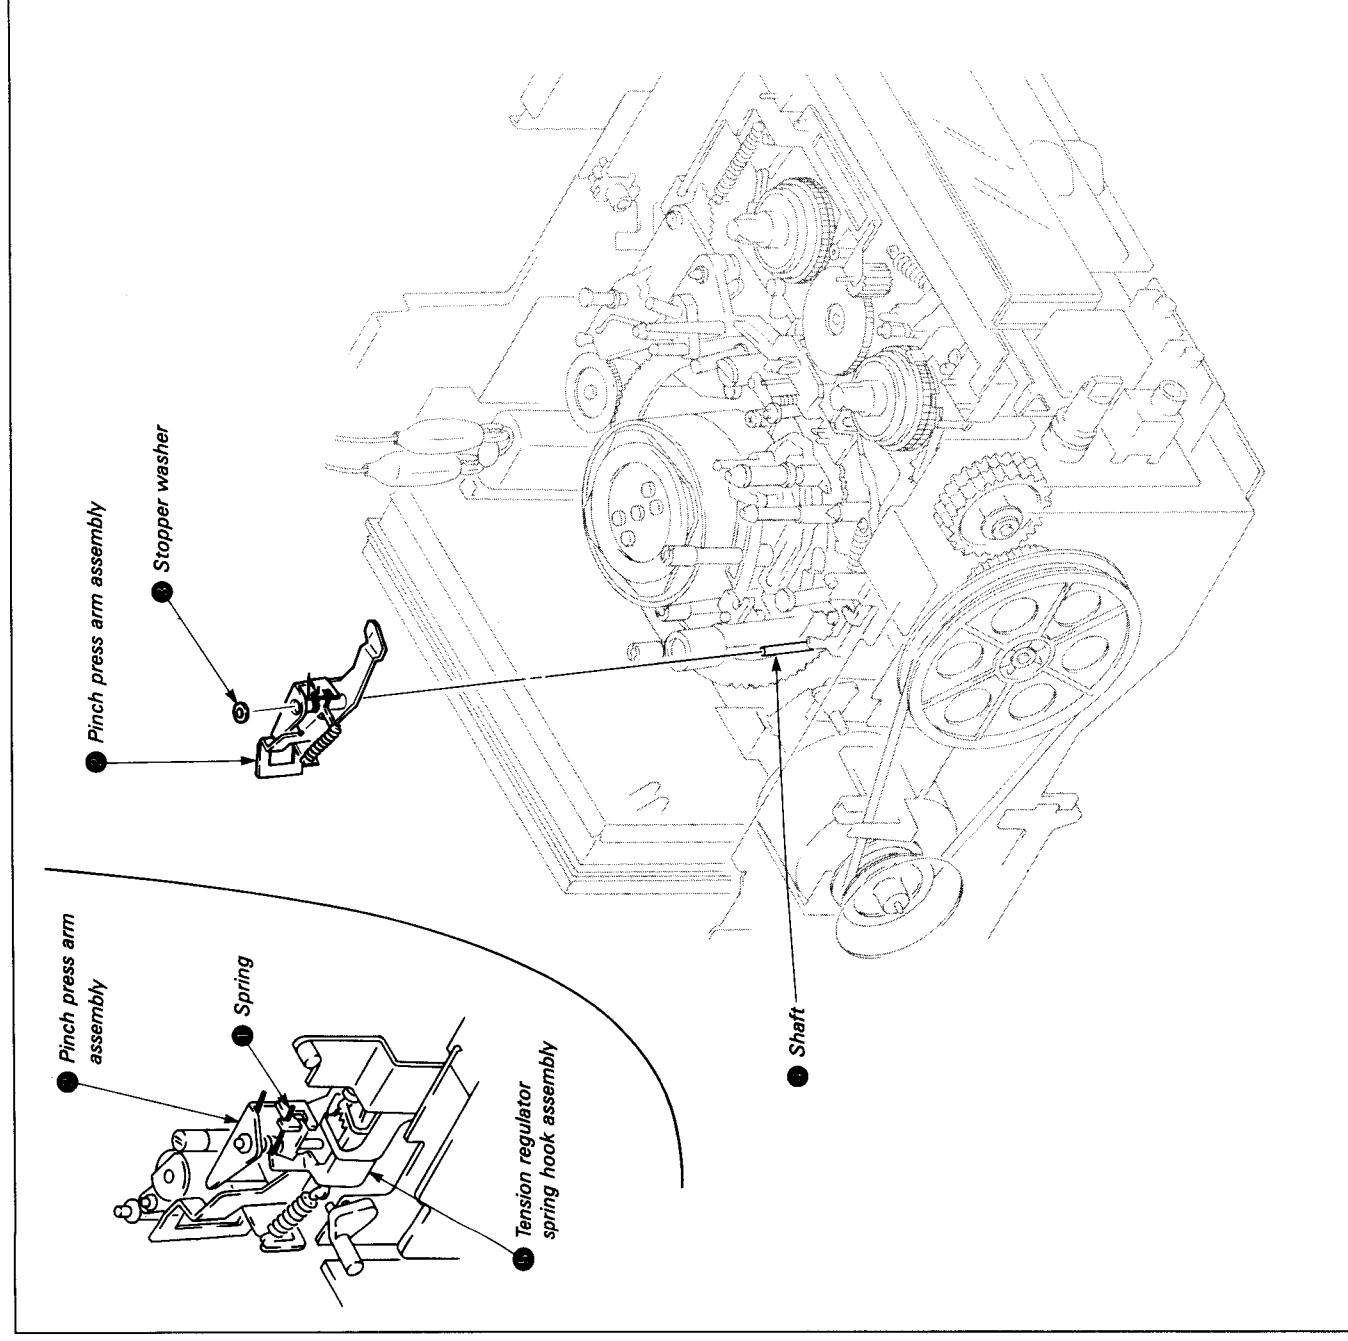

Fig. 7-8.
7-3-3. Pinch Press Arm Assembly (See Fig. 7-8)
- 3) Remove the LS motor belt ①.
- 4) Remove the Four screws ②, and then move the Front base ③ in the direction of arrow.
- 5) Change the spring position as described in 7-3-3. 1. Removal, 2). (See Fig. 7-8.)
- 6) Remove tension spring ④. (Note its position.)
- 7) Remove screw ⑤ and the tension regulator spring hook assembly ⑥.
- 9) Remove the tension regulator band assembly hook ⑦.
- 10) Remove the tension regulator arm assembly ⑧.
- 1) Place a half drop of oil on the spindle ①.
- 2) Mount the tension regulator arm assembly ⑧, placing the tension regulator load arm assembly pin ⑨ in the tension regulator arm assembly ⑧ cam groove (on the back).
- 3) Mount the tension regulator band assembly hook ⑦. (Do not touch the band or change its shape.)
- 5) Mount the tension regulator spring hook assembly ⑥ and tighten with screw ⑤.
- 6) Replace tension spring ④ in its original position and lock the screws.
- 7) Position the spring according to item 7-3-3, 2. Mounting, 3). (See Fig. 7-8.)
- 8) Mount the Front base ③, and then tighten with four screws ②.
- 9) Mount the LS motor belt ①.